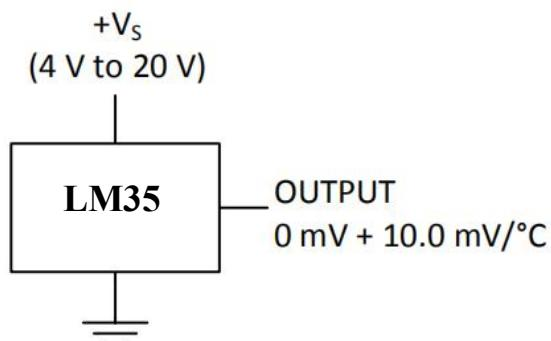

Figure 1. Basic Centigrade Temperature Sensor (2°C to 150 °C)
Unless otherwise noted, these specifications apply: $-40^\circ\text{C} \leq T_J \leq 125^\circ\text{C}$ for the LM35C; and $0^\circ\text{C} \leq T_J \leq 100^\circ\text{C}$ for the LM35D. $V_S = 5\text{Vdc}$ and $I_{LOAD} = 50 \mu\text{A}$, in the circuit of Full-Range Centigrade Temperature Sensor. These specifications also apply from 2°C to T_{MAX} in the circuit of Figure 1.
(1) Tested Limits are ensured and 100% tested in production.
(2) Design Limits are ensured (but not 100% production tested) over the indicated temperature and supply voltage ranges. These limits are not used to calculate outgoing quality levels.
(3) Accuracy is defined as the error between the output voltage and 10 $\text{mv}/\text{^\circ C}$ times the case temperature of the device, at specified conditions of voltage, current, and temperature (expressed in $^\circ\text{C}$).
(4) Non-linearity is defined as the deviation of the output-voltage-versus-temperature curve from the best-fit straight line, over the rated temperature range of the device.
(5) Regulation is measured at constant junction temperature, using pulse testing with a low duty cycle. Changes in output due to heating effects can be computed by multiplying the internal dissipation by the thermal resistance.
(6) Quiescent current is defined in the circuit of Figure 1.